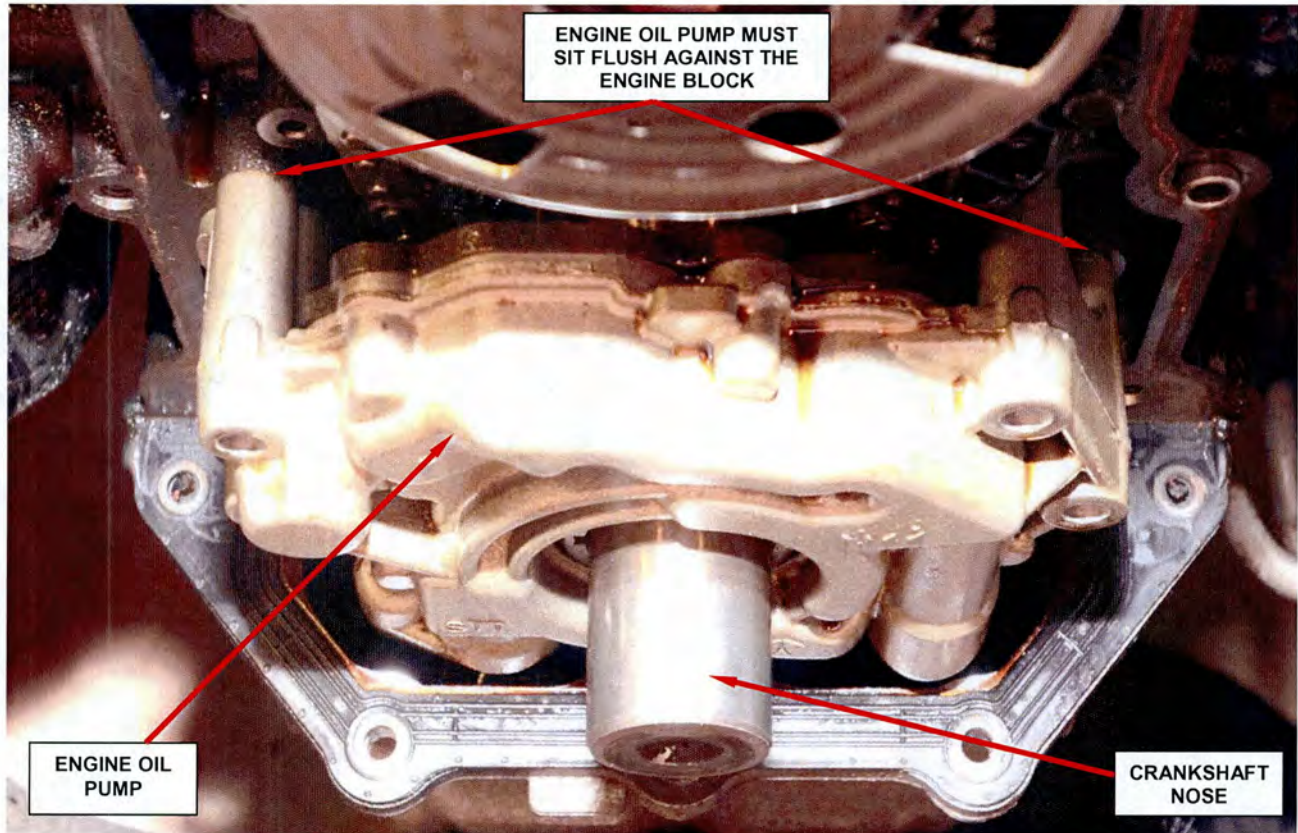

**Figure 12 – Install Plastic Tie Strap to Maintain Chain Tension during Assembly**
52. Install the new aluminum timing chain guide supplied in the repair kit (Figure 12). Tighten the timing chain guide retaining bolts to 98 in. lbs. (11 N·m).
53. Using a mirror, verify that the crankshaft sprocket timing mark is in the correct position (Figure 11) and then install a plastic tie strap around the timing chain to hold tension on the timing chain (Figure 12).